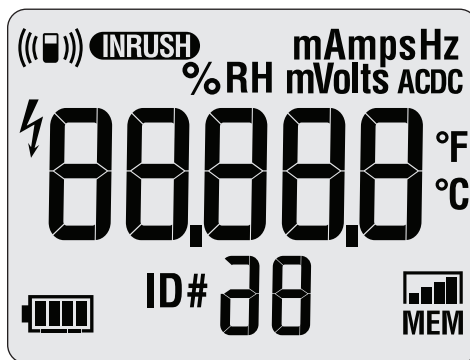

Figure 2. All Segments of the Display
2. Push **1** while you keep **LOG** pushed until all of the display segments are shown. See Figure 2.